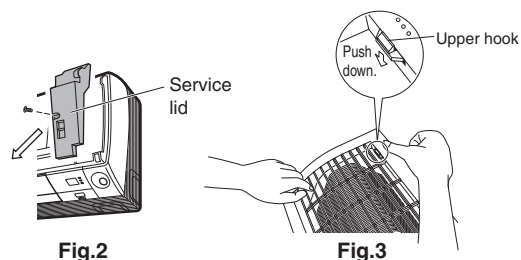

Fig.2
- 5) Remove the service lid screw (1 screw) and remove service lid. (See Fig.2)